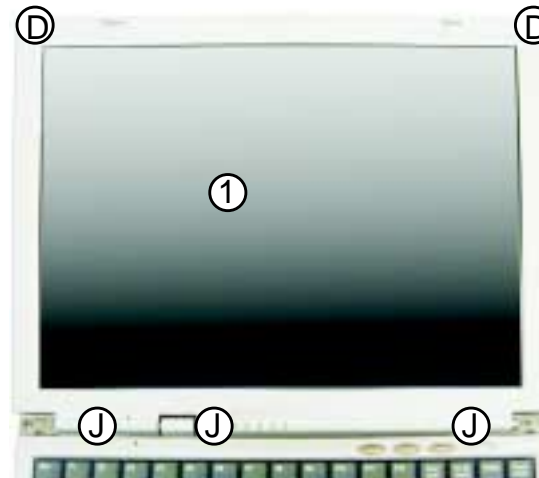

figure 3-24
1. Remove the rubber stoppers in positions D and J (figure 3-24).
2. Remove the screws (D, J) (figure 3-24).